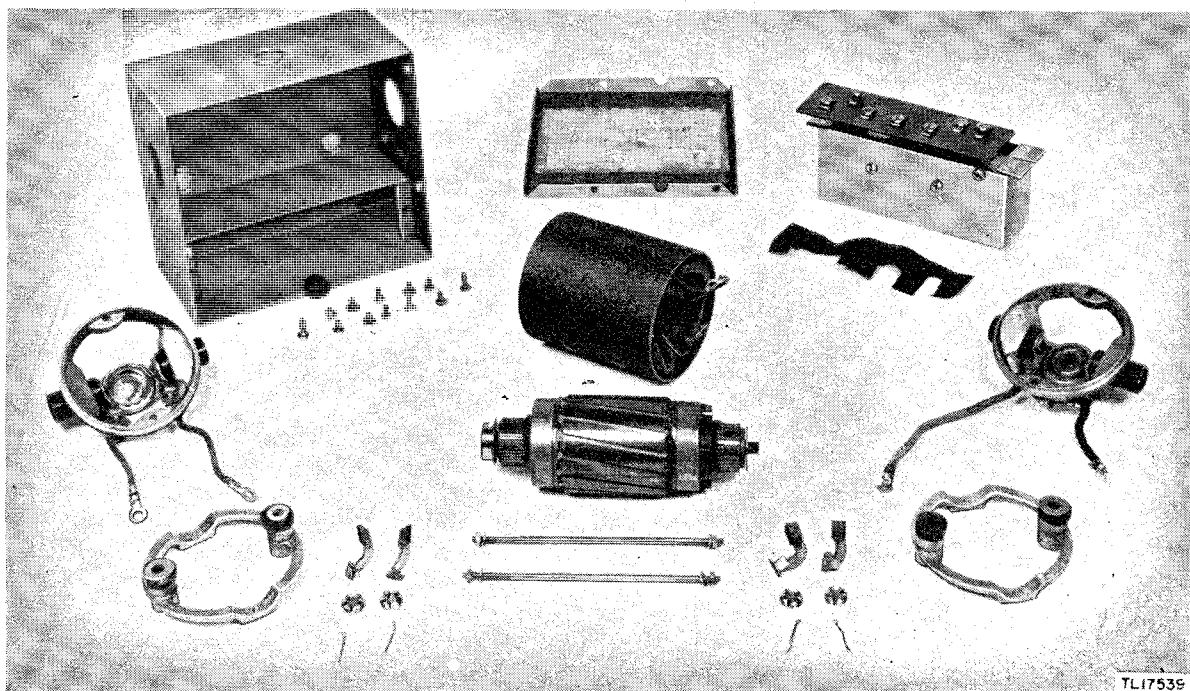

Figure 8. Dynamotor parts.
b. CLEANING (FIG. 8). Do not dismantle dynamotors which operate normally and have only small deposits of carbon dust on brush holders. Clean them with a cloth moistened with petroleum spirits. Dismantle dynamotors which show evidence of excessive use and large deposits of carbon dust and grease; clean as follows:
(1) Remove the dynamotor from the housing by removing the four screws in each end of the case and disconnecting the leads.
(2) Remove the brush holder caps and brushes on both low-voltage and high-voltage ends. Mark each brush so that it can be replaced in the same position in the same holder.
(3) Disconnect the leads to the brush holders; mark each lead so that it may be connected properly when the unit is reassembled.
(4) Remove the nuts on the tie rods at the high-voltage end, and remove bearing bracket.
(5) Pull out the armature.
(6) Remove the bearing bracket from the low-voltage end.
(7) Clean the bearing brackets, brush holders, bearing cover plates, and spacer shims with a cloth moistened with petroleum spirits.
(8) Blow loose dust and dirt out of stator assembly; if necessary, clean metal parts with #0000 sandpaper and petroleum spirits. Blow out resultant sand and metal fillings with compressed air. Field coils may be cleaned with a small sash brush and wiped with a cloth moistened with petroleum spirits.
(9) Clean the armature, including the commutator, with a cloth moistened with petroleum spirits; wipe with a clean cloth.
(10) If the commutator is slightly rough, smooth with #0000 sandpaper. Remove sand and metal fillings with a small piece of coarse canvas. Cover the bearings before cleaning the armature and commutator.